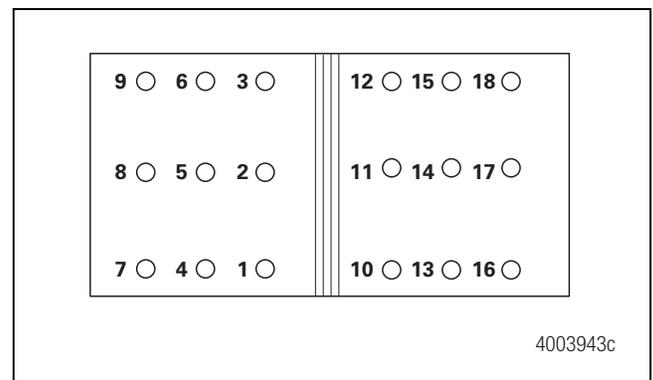
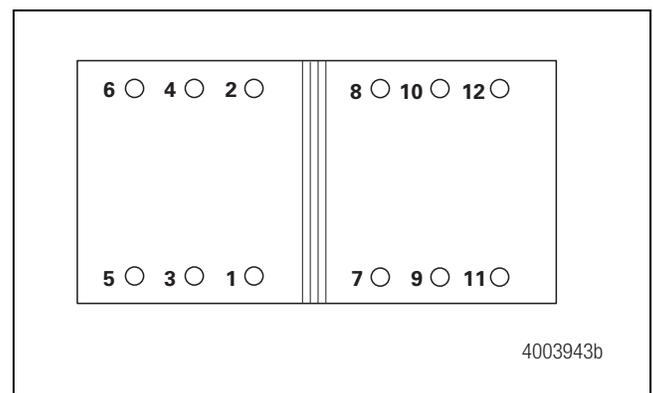

Figure 5.19
Figure 5.20
3. Install the 0.375-inch diameter brass bolts into the bolt holes. The bolts must be the correct body diameter, head size and shape, and length and material. Follow the sequence shown in Figure 5.19 for 10-inch width brakes and Figure 5.20 for all other brake widths.